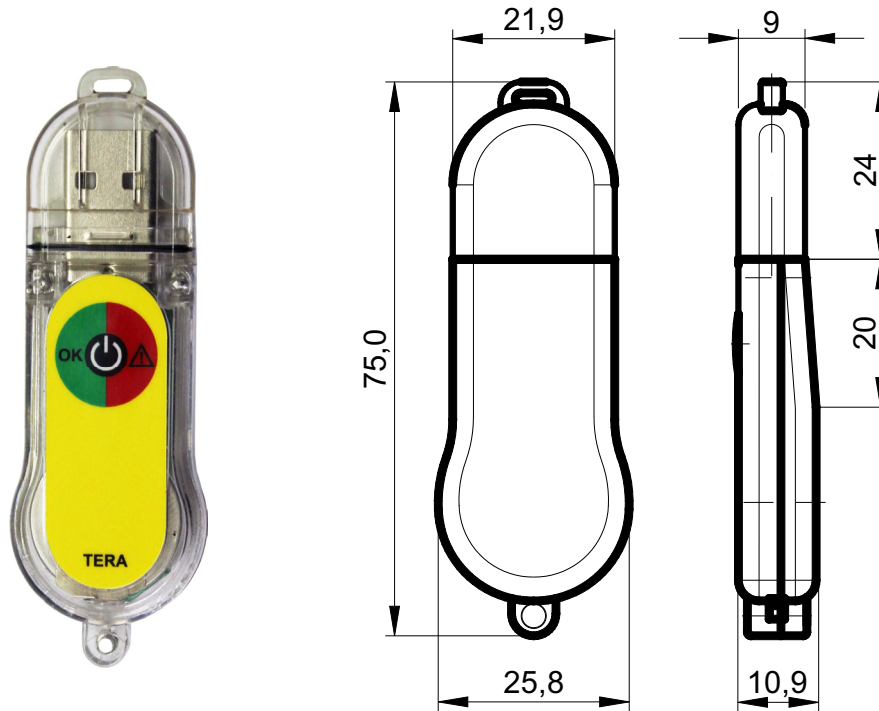

Figure 1. Data Logger's Design.
1.5.1. Data Logger's design and dimensions are shown in Figure 1.